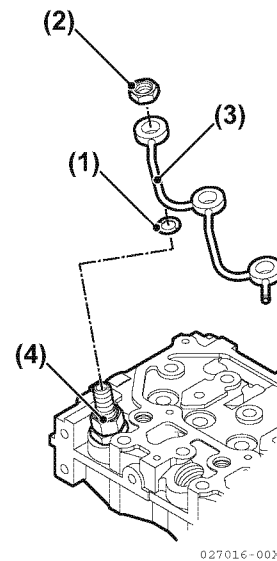

Figure 7-6
3. Remove all fuel return line nuts (Figure 7-6, (2)) from the injectors (Figure 7-6, (4)).
5. Carefully remove the fuel return line assembly (Figure 7-6, (3)).
6. Remove and discard the copper gasket (Figure 7-6, (1)) from each fuel injector.